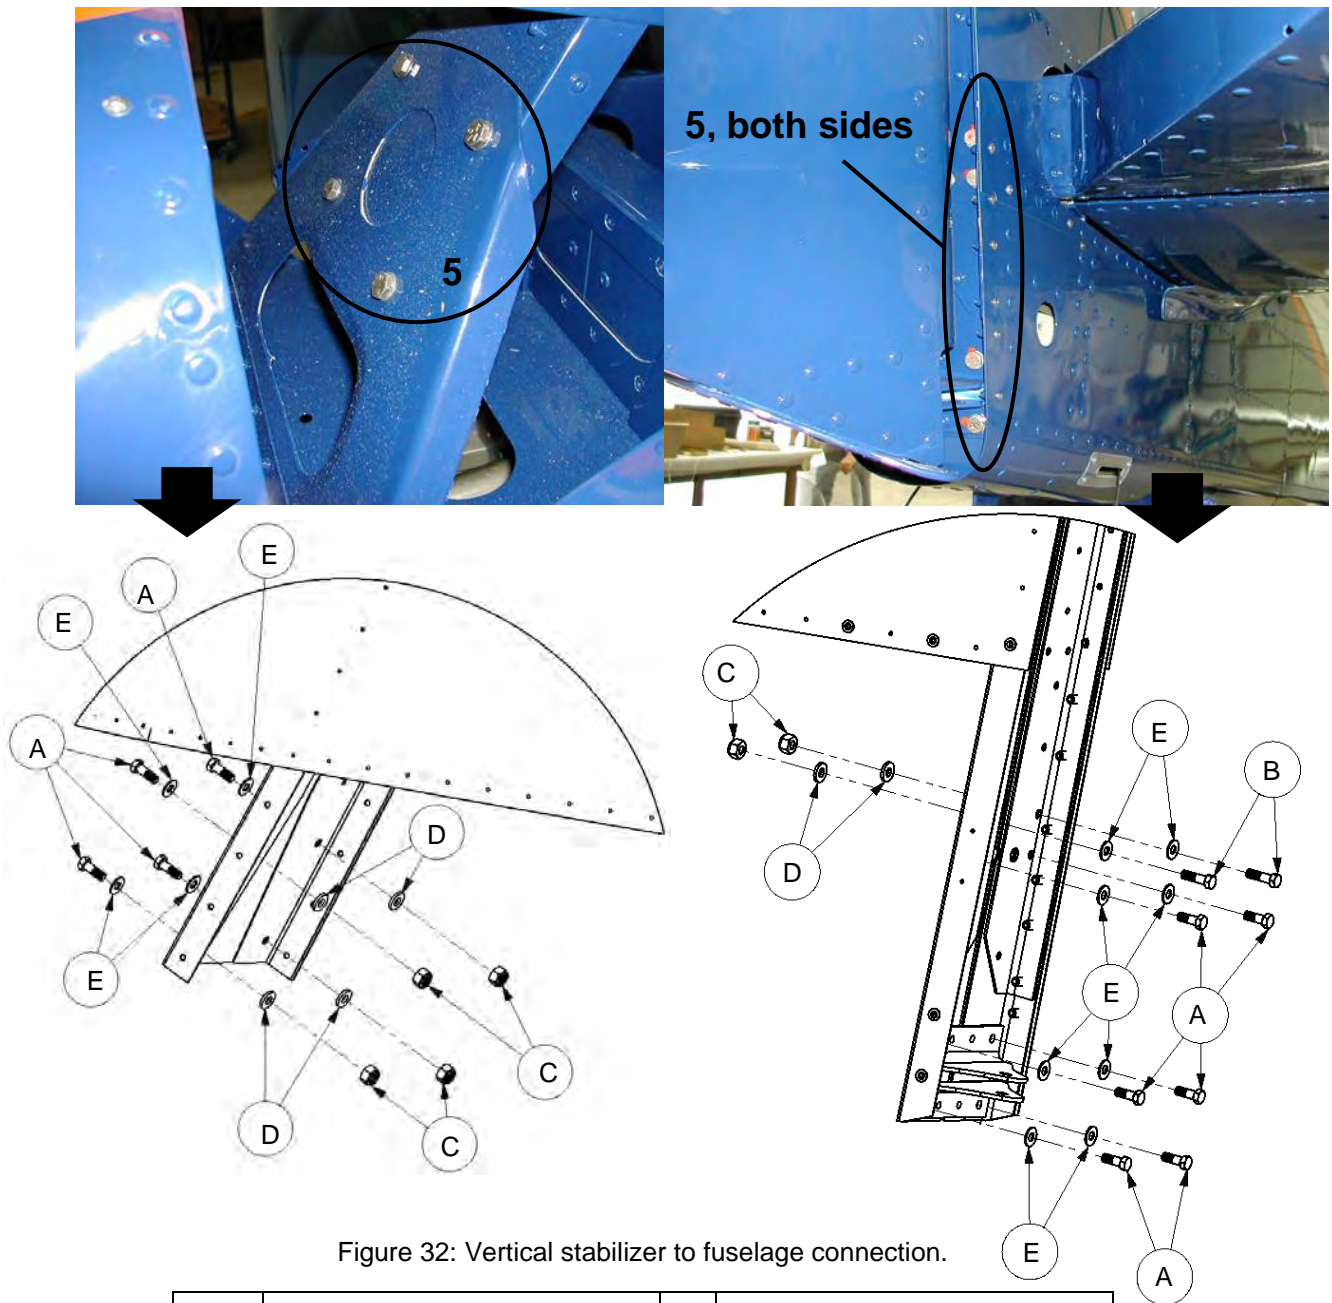

Figure 32: Vertical stabilizer to fuselage connection.
- Observe the correct placement of washers (refer to Figure 32).